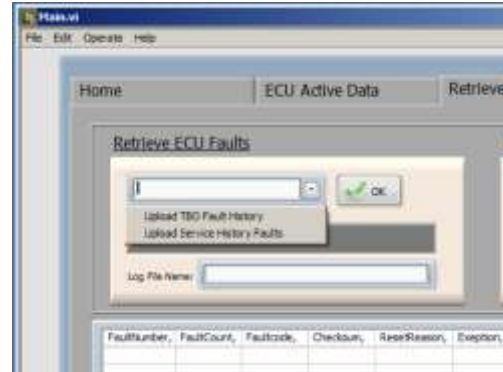

Figure C-29
3. From the “Retrieve ECU Faults” drop-down menu (Figure C-29) select one of the following options: